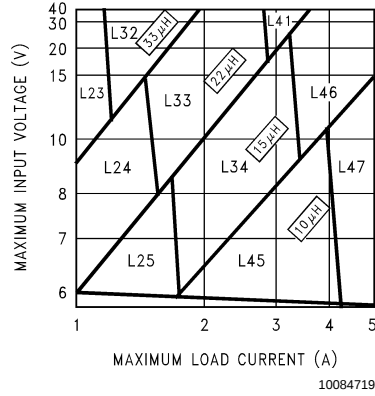
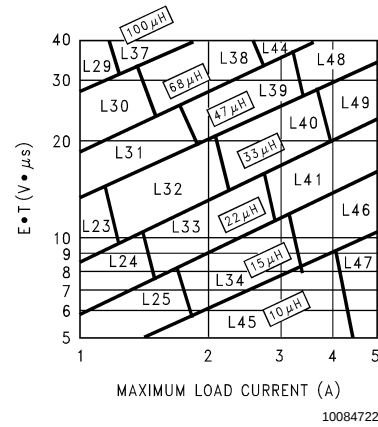

FIGURE 3. LM2679-3.3
FIGURE 6. LM2679-ADJ
Step 3: Determine the inductor required by using one of the four nomographs, *Figure 3* through *Figure 6*. Table 1 provides a specific manufacturer and part number for the inductor.
Step 5: Determine an input capacitor from Table 4 for fixed output voltage applications. Use Table 2 to find the specific capacitor type. For adjustable output circuits select a capacitor from Table 2 with a sufficient working voltage (WV) rating greater than $V_{\text{in max}}$, and an rms current rating greater than one-half the maximum load current (2 or more capacitors in parallel may be required).
Step 3: Use the nomograph for the 3.3V device, *Figure 3*. The intersection of the 16V horizontal line ($V_{\text{in max}}$) and the 4A vertical line ($I_{\text{load max}}$) indicates that L46, a 15 μH inductor, is required.
Step 3: To use the nomograph for the adjustable device, Figure 6, requires a calculation of the inductor Volt•microsecond constant (E•T expressed in V•μs) from the following formula:
Using Figure 6, the intersection of 27V•μs horizontally and the 3.5A vertical line (I_{load} max) indicates that L48, a 47μH inductor, or L49, a 33μH inductor could be used. Either inductor will be suitable, but for this example selecting the larger inductance will result in lower ripple current.
Important Note: When using the adjustable device in low voltage applications (less than 3V output), if the nomograph, Figure 6, selects an inductance of 22μH or less, Table 6 does not provide an output capacitor solution. With these conditions the number of output capacitors required for stable operation becomes impractical. It is recommended to use either a 33μH or 47μH inductor and the output capacitors from Table 6.